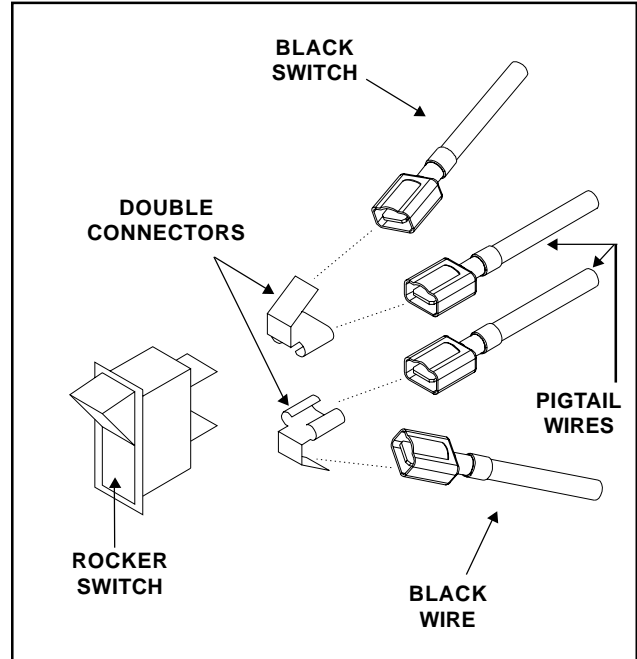

Figure 3
3. Find the red and brown pigtail wires labeled "FOR USE WITH REMOTE OR WALL SWITCH ONLY" which are attached to the unit's ON/OFF rocker switch. Do **NOT** disconnect the existing wires attached to this ON/OFF switch. See Figure 3.